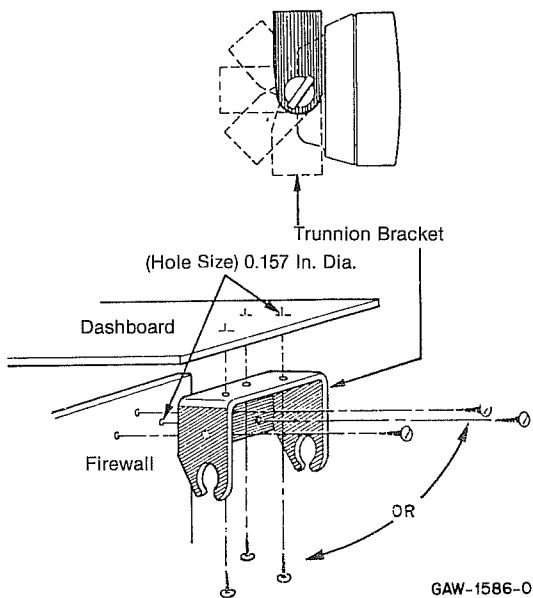
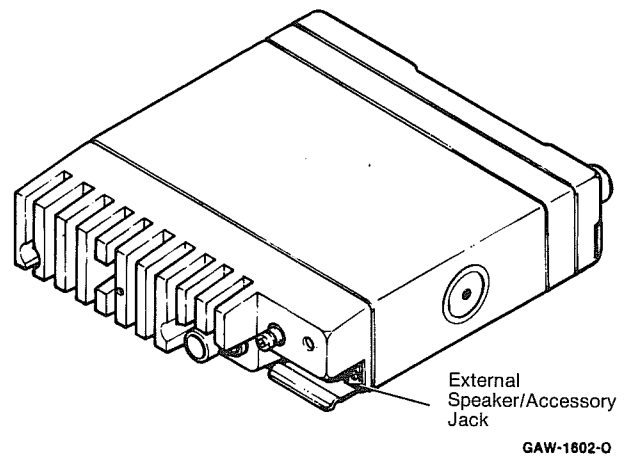

Figure 5
Figure 6
- (1) Remove the speaker from the trunnion bracket by loosening the two wing screws.
- (2) Choose a place to mount the speaker.
- (3) Using the trunnion bracket as a template, mark the locations of the three mounting holes.
- (4) Centerpunch and drill a four-millimeter hole at each location.
- (5) Mount the trunnion bracket with the screws supplied (Figure 5).
- (6) Insert the speaker into the trunnion bracket and tighten the two wing screws.
- (7a) (Dash mount) Push the external speaker accessory plug into the nine-pin accessory connector at the back of the radio (Figure 6).